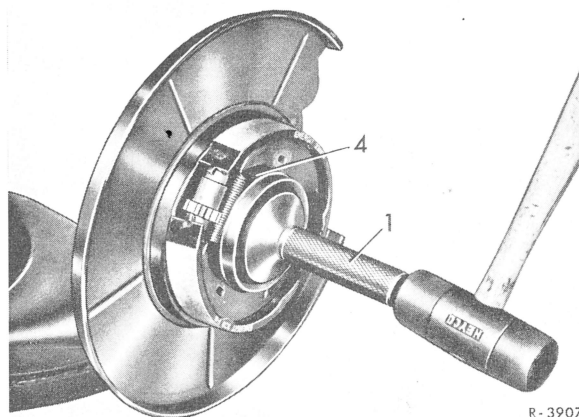

Fig. 9
**10** Knock bearing outer race of inner tapered roller bearing from wheel carrier with mandrel (Fig. 9).